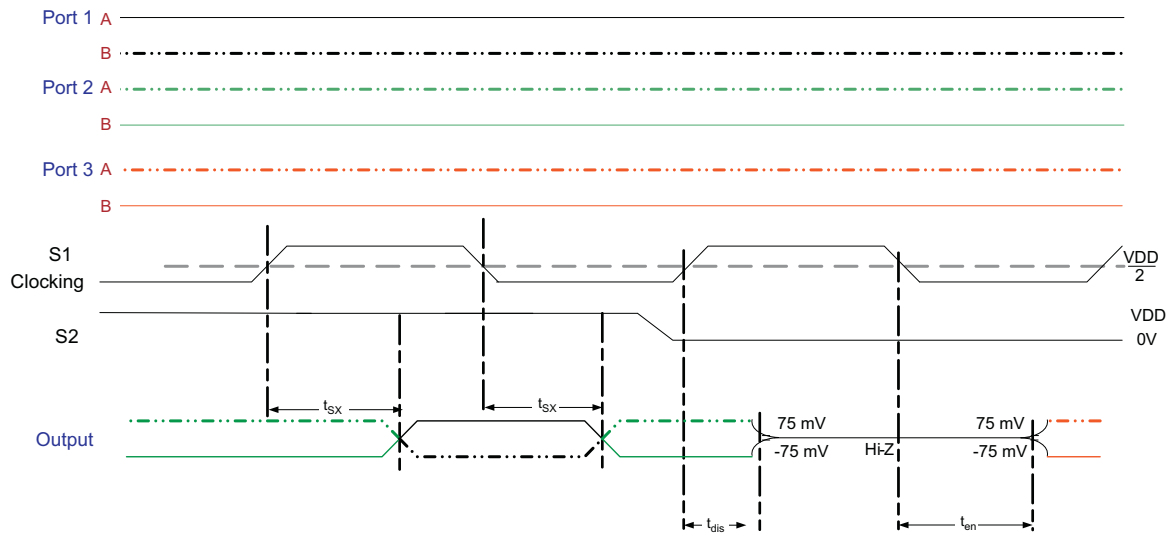

Figure 6. TMD5 Outputs Control Timing Definitions
- A. Channels 2, 3, 4, $V_{CC} = AV_{CC} = 3.3\text{ V}$, $T_A = 25^\circ\text{C}$, $R_{VSADJ} = 4.02\text{ k}\Omega$, See Figure 6
- A. Channel 1, $V_{CC} = AV_{CC} = 3.3\text{ V}$, $T_A = 25^\circ\text{C}$, $R_{VSADJ} = 4.02\text{ k}\Omega$, See Figure 6
- A. 1080p 10-Bit, $V_{CC} = AV_{CC} = 3.3\text{ V}$, $T_A = 25^\circ\text{C}$, $R_{VSADJ} = 4.02\text{ k}\Omega$, See Figure 6, Clock Channel = 185.6 MHz, Data Channel = 1.856 Gbps
- A. 1080p 12-Bit, $V_{CC} = AV_{CC} = 3.3\text{ V}$, $T_A = 25^\circ\text{C}$, $R_{VSADJ} = 4.02\text{ k}\Omega$, See Figure 6, Clock Channel = 222.8 MHz, Data Channel = 2.228 Gbps